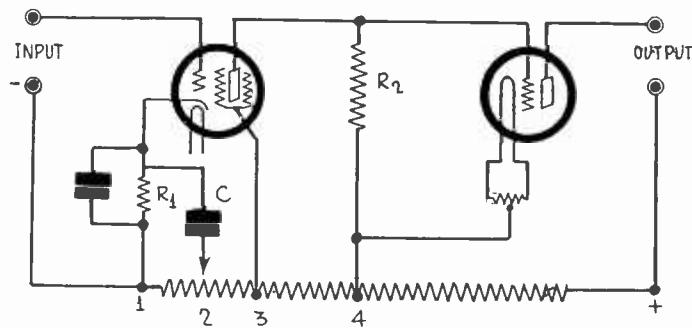

FIG. 857
Fig. 857 is a diagram of a receiver similar to the Loftin-White. Exact values of the resistances cannot be given because they depend somewhat on the tubes used and the final adjustment must be made experimentally. However, the following values are approximately correct: R1, 50,000 ohms; R2, 0.5 megohm; resistance (1) to (3), 400 ohms in the form of a potentiometer; resistance (3) to (4), 5,000 ohms; resistance (4) to (+), 50,000 ohms. Condenser C should be 0.1 mfd. and the other condenser one megohm. The low resistance potentiometer across the 245 filament need not be higher than 20 ohms, but it should be accurately center-tapped. The slider on the 400 ohm potentiometer should be put where the hum is least. In adjusting the circuit two things should be watched carefully, namely, the bias on the 245, which is the drop in R2, and the screen voltage on the 224. The bias on the last tube should be 50 volts and may be assumed to be correct when the plate current in the output tube is 32 milliamperes. It may be varied by varying the resistance between (3) and (4), by varying the screen voltage, that is, the resistance between (1) and (2), or by varying R1. The total voltage required between (+) and (-) is 450 volts, although the circuit will work on somewhat less.